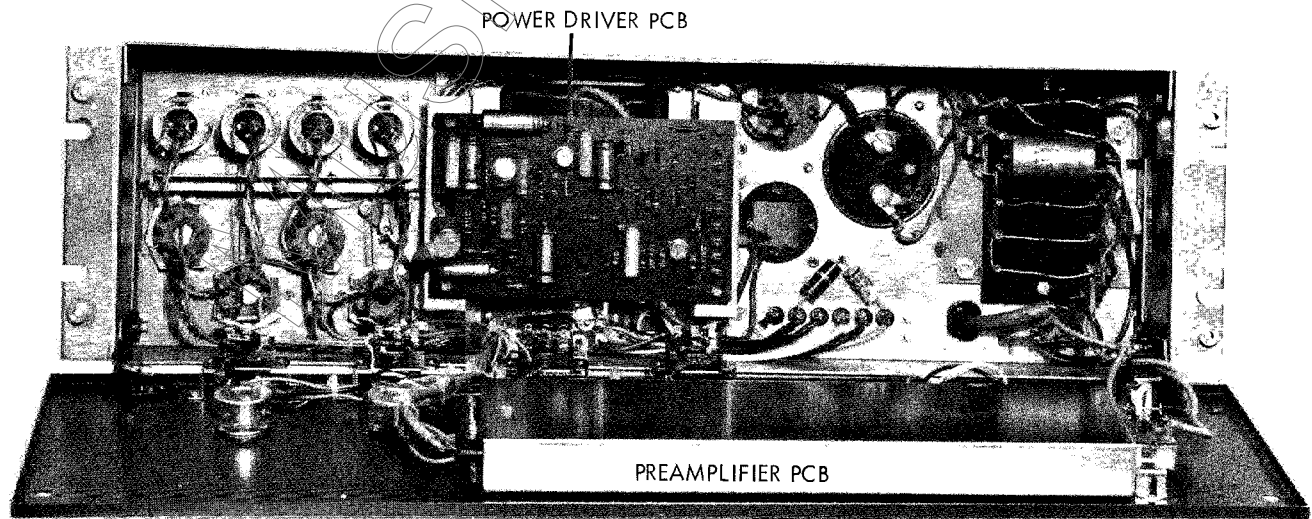

Figure 4. Front View 1606A with Hinged Front Panel Opened
1. Remove four screws securing front panel; then open and lower panel (see Figure 4).
A Power Driver printed circuit board (PCB) and a Preamplifier PCB are located within the chassis (see Figure 4). To restore operation if a PCB fails, replace the faulty PCB with a new or repaired PCB, using the following applicable procedure.